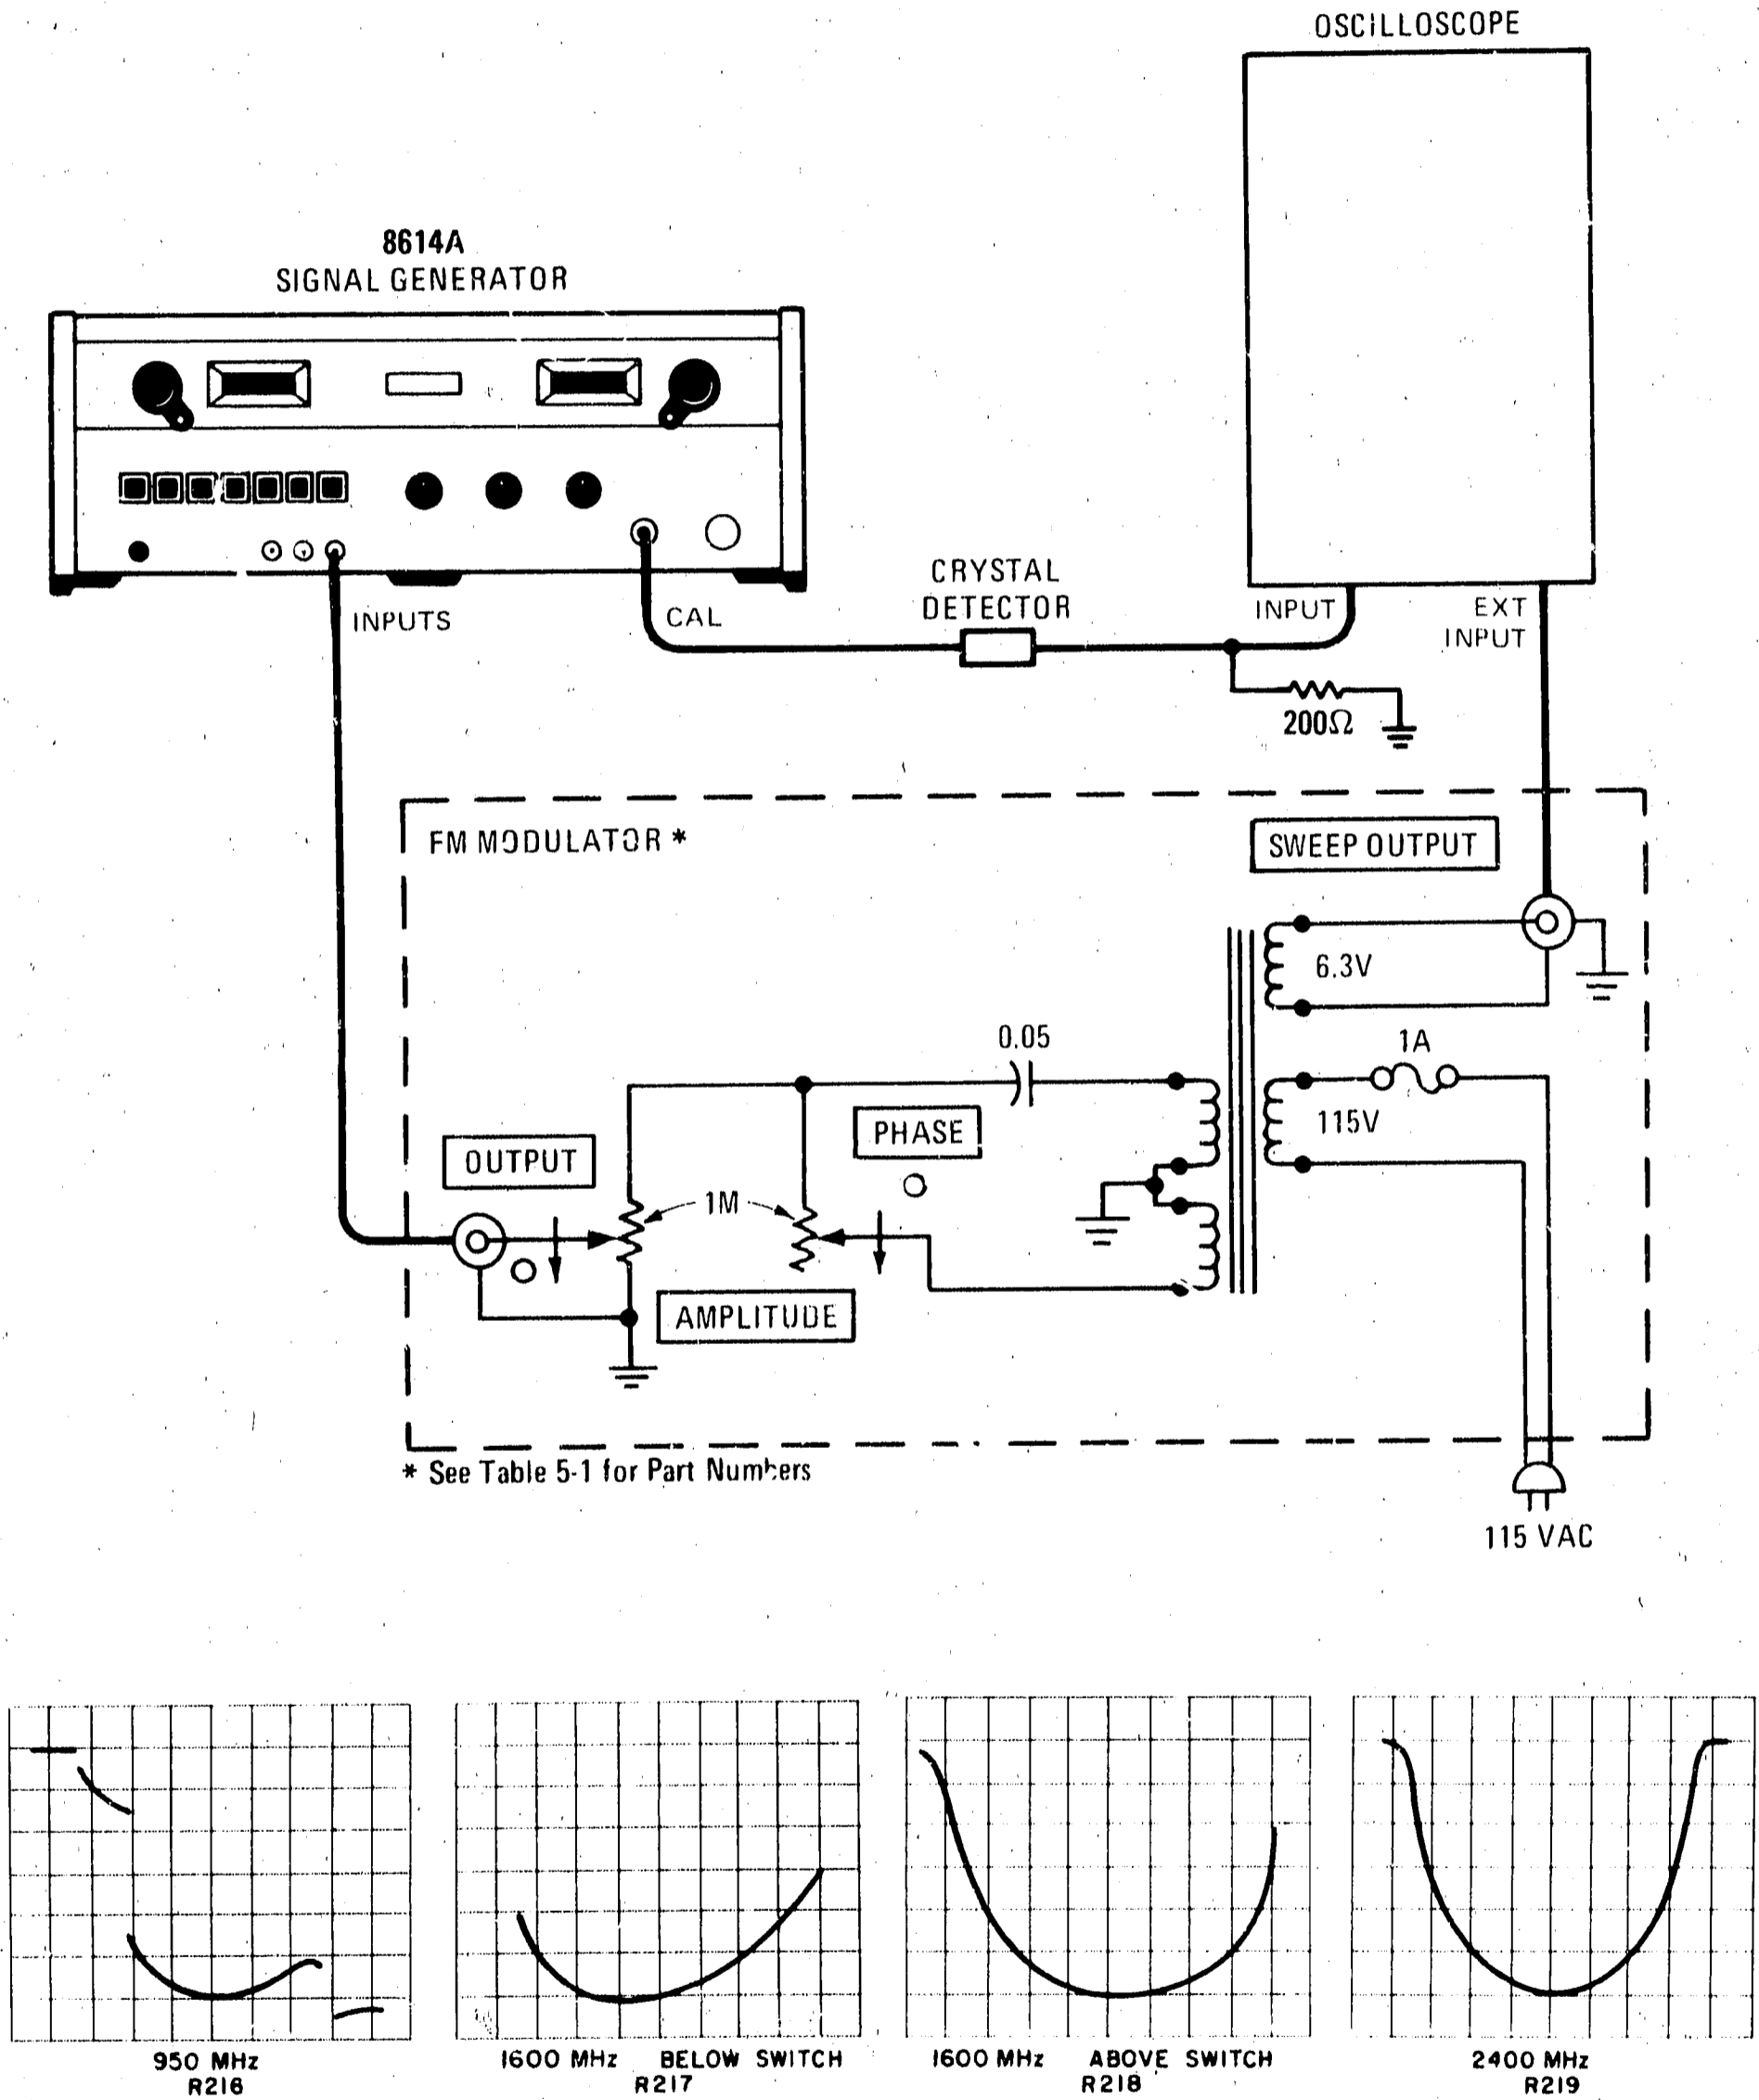

Figure 5-14. Repeller Mode Adjust Setup
- To observe repeller modes of the klystron, a FM Modulator, with adjustable phase and amplitude controls, is necessary. Such a device is shown in Figure 5-14; it consists of a small power transformer connected with the primary and secondary windings